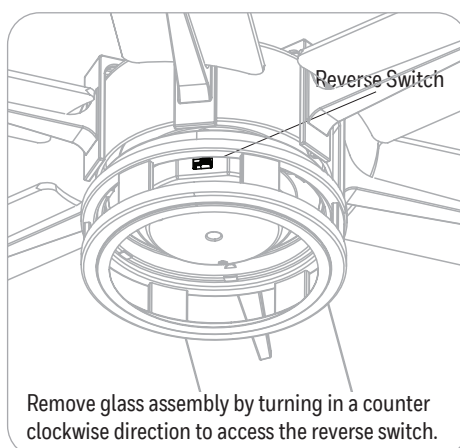

Figure 5.2
**In cooler weather**, push the reverse switch right and the fan to low, which will result in upward airflow that can help move stagnant, hot air off the ceiling area (Figure 5.2). **Important:** Wait for the fan to stop before moving the reverse switch located on the light kit. The reverse switch must be set either completely left or right in order for the fan to function correctly. If the reverse switch is set in the middle position, the fan will not operate.